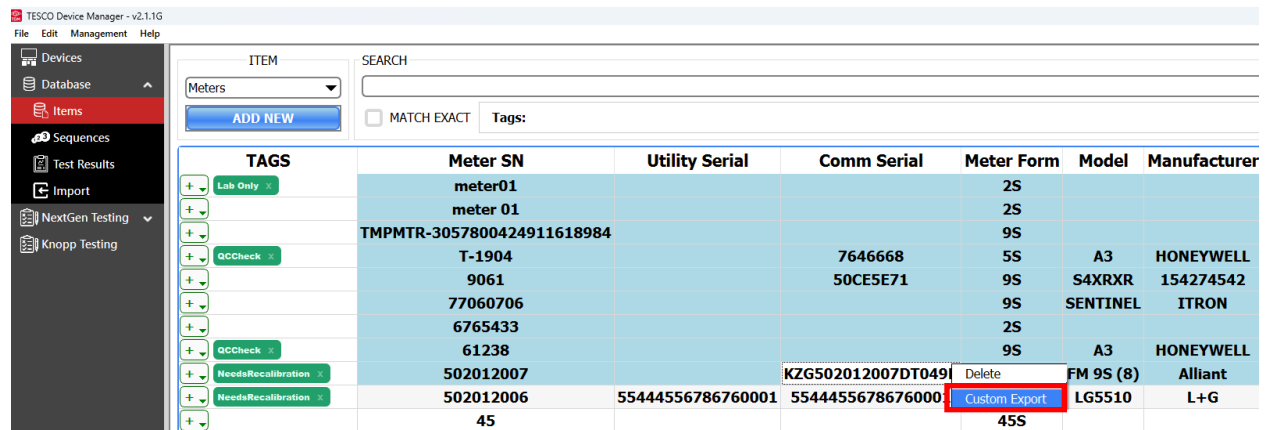

Figure 1. Performing **Custom Export** via Database Items table record selection
- The **Input parameter** represents the type of data that can be extracted from the **Target Data**. It can either be **\${serials}**, representing the comma-separated list of *serial numbers* of the selected rows (see Figure 1) or **\${resultKeys}**, representing the comma-separated list of result keys for test results. NOTE: The **Input parameter** should be used in the SQL query.
Upon query execution, the **`${serials}`** parameter will be substituted by the selected serial numbers. As an example, using *Figure 1* selections, the *final query* will be